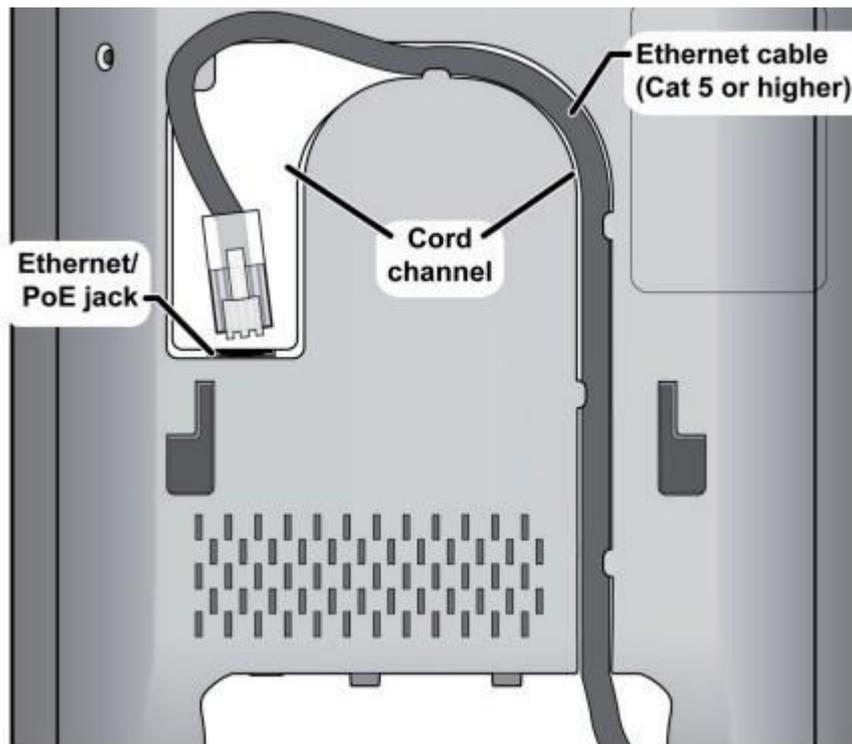

Figure 2-173 Connecting the Base Station
- Route the cable through the channel as shown in Figure 2-173 Connecting the Base Station.